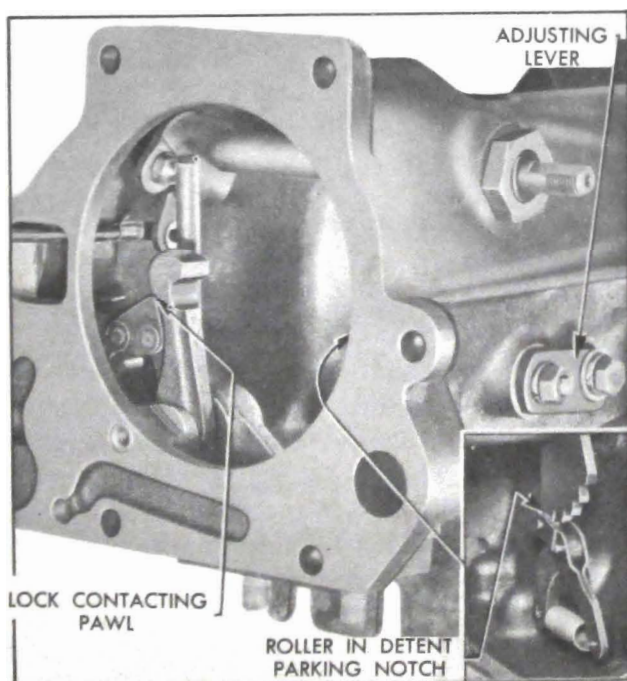

Figure 5-77—Shift Detent Adjustment
7. Temporarily install shift lever on cross shaft and shift parking pawl into Parking position. See figure 5-77.
8. Shift the linkage adjusting lever at slotted end until the pawl lock contacts the parking pawl, then tighten adjusting lever lock bolt, being certain to maintain contact between lock and pawl. See figure 5-77.